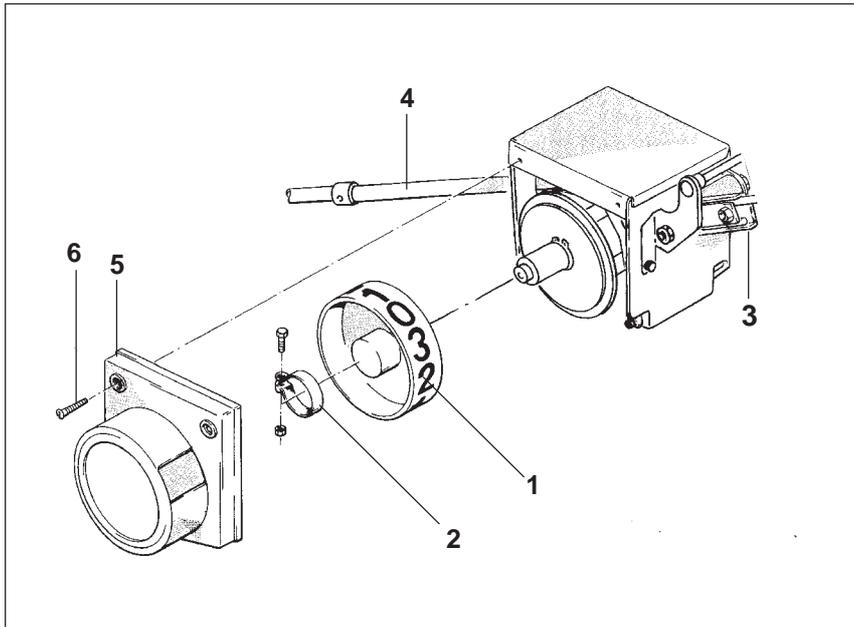

Fig. 26.58
- Fit figure display wheel (Fig. 26.58/1), as described in para. 26.11 after having applied the new figure sticker loosely onto the divider wheel with the aid of the clamp (Fig. 26.58/2) .
- Press lever (Fig. 26.58/3) downwards so often until the clamping tube (Fig. 26.58/4) is pulled and held in position. Hold protective cover (Fig. 26.58/5) to switch box and turn the figure display wheel (Fig. 26.58/1) until the figure "0" can be seen in the window of the protective cover.
- Clamp the figure display wheel (Fig. 26.58/1) with the clamp (Fig. 26.58/2) and fix the protective cover (Fig. 26.58/5) with two tin screws (Fig. 26.58/6) .